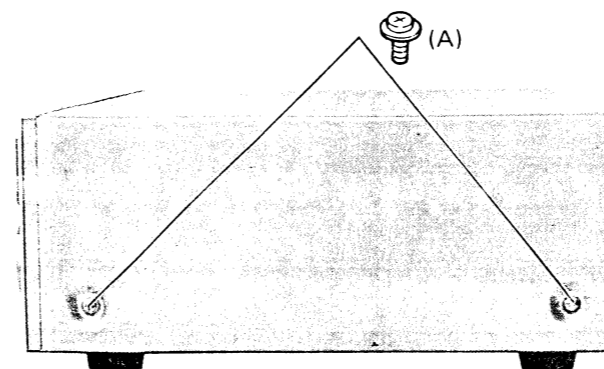

Figure 13
1. Remove four screws (A) and (B) from each side of Top Cover (See Figure 13 and 14)